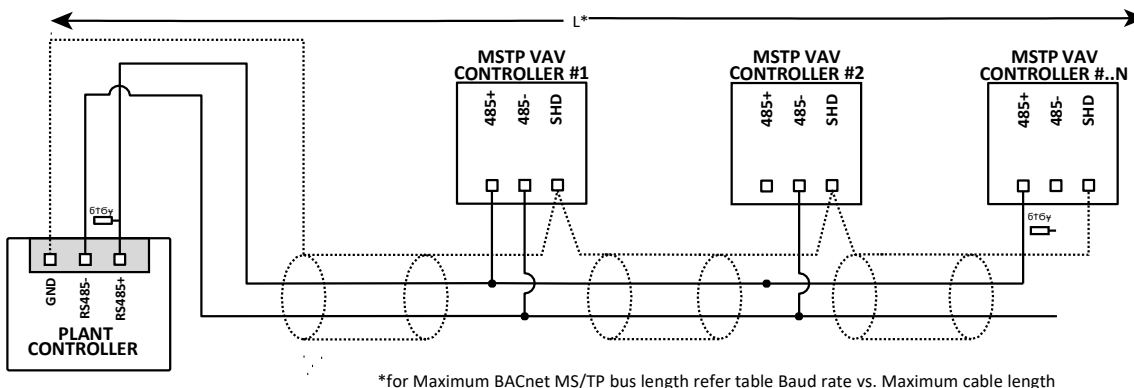

Figure 12. Connection to a BACnet MS/TP Bus
- Maximum BACnet MS/TP bus length (= "L" on *Figure 12*. See *Table 6, "Baud rate vs. Maximum cable length,"* on *page 15*.